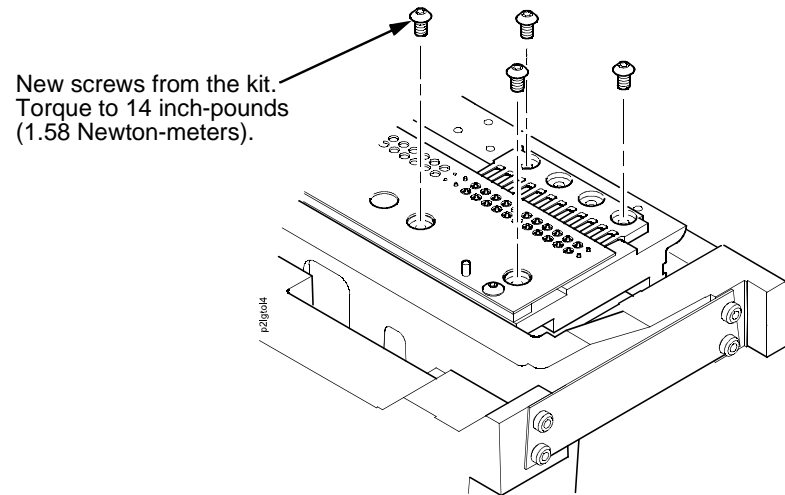

Figure 25. This figure shows how to install the Torx T-10 screws in more than one hammer spring assembly on a dual hammer bank.
7. Continue to apply a slight downward pressure on the tool and install the outer two mounting screws in the hammer spring assembly nearest you. Now install the outer mounting screws in the other hammer spring assembly. Torque each screw to 14 in-lbs (1.58 N•m). (See Figure 25 and use the 1-30 inch-pound Torque Screwdriver, IBM part number 16F1661.)